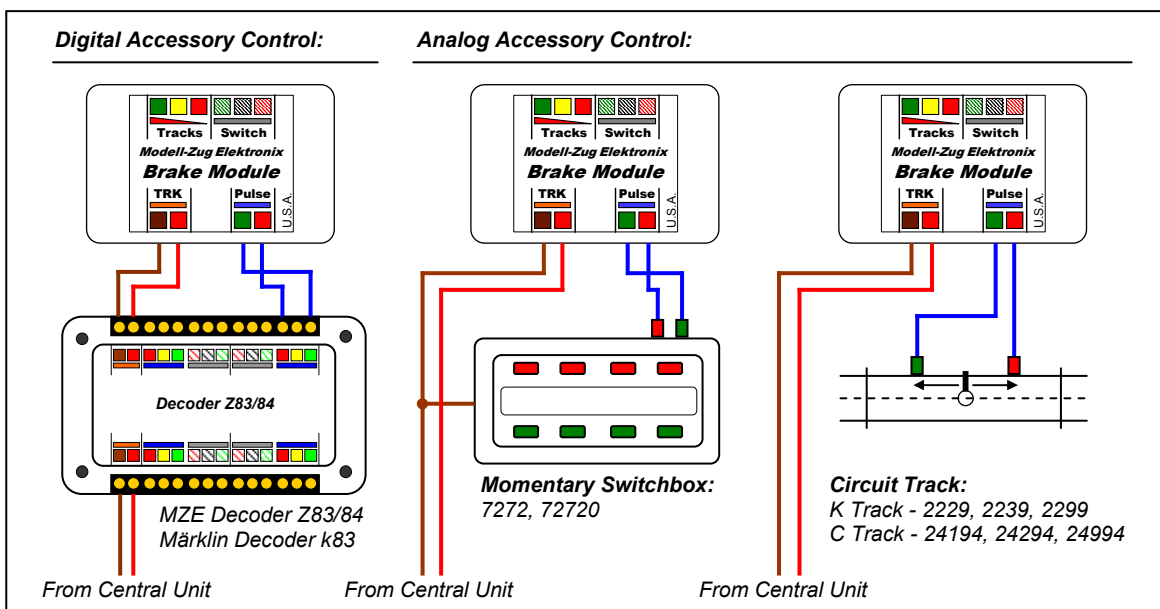

Figure 3. Input Connections
2. Next, the TRK and Pulse inputs are connected in one of the methods shown in Figure 3 below, in either analog or digital accessory control format: